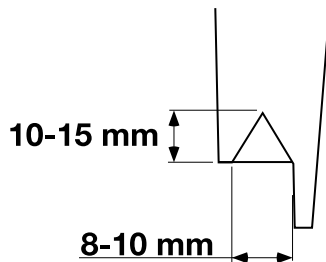

Fig 20.
- d Fit the pre-cut nozzle. ⇒ Fig 20. \(□ B-30\).